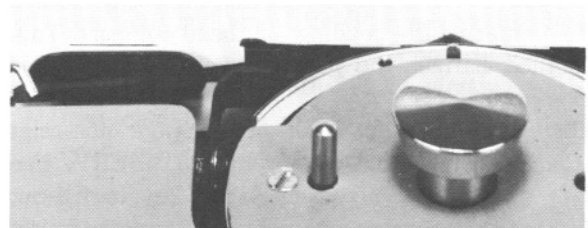

Figure 72
8. Move carriage so left alignment guide (38) is below this rule.
9. Hold paper forward against alignment guide to determine relationship between top of alignment guide and rule (exactly on top edge of alignment guide, slightly above, or below it) (Figure 72).